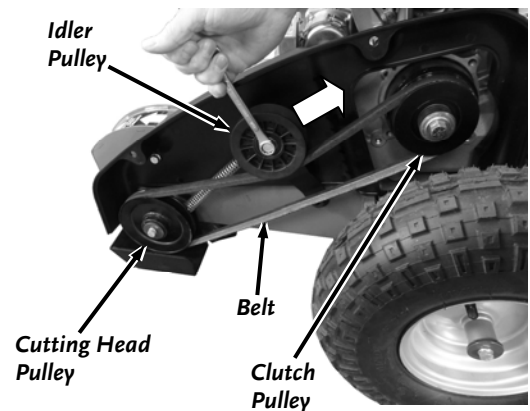

Figure 37
2. You should wear Gloves as you position a 9/16" Wrench onto the Idler Pulley Bolt and inline with the Pulley Bracket (**Figure 37**). Pull the Wrench to rotate the Belt Tensioner away from the Belt and then remove the Belt by rotating the Cutting Head to roll the Belt over the top of the Pulley.